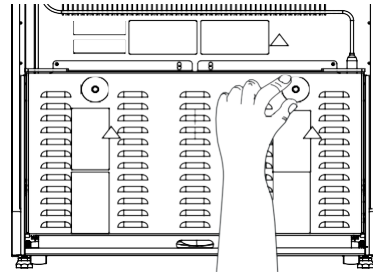

fig.3
1. Mount the ventilation guards in the holes on the back cover. (Fig 3)